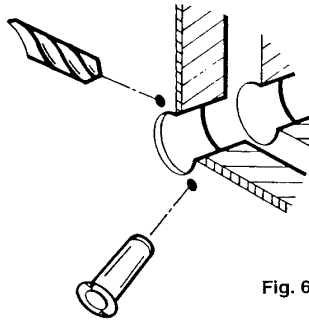

Fig. 67
8. Drill and plug the wall in these positions (Fig. 67).